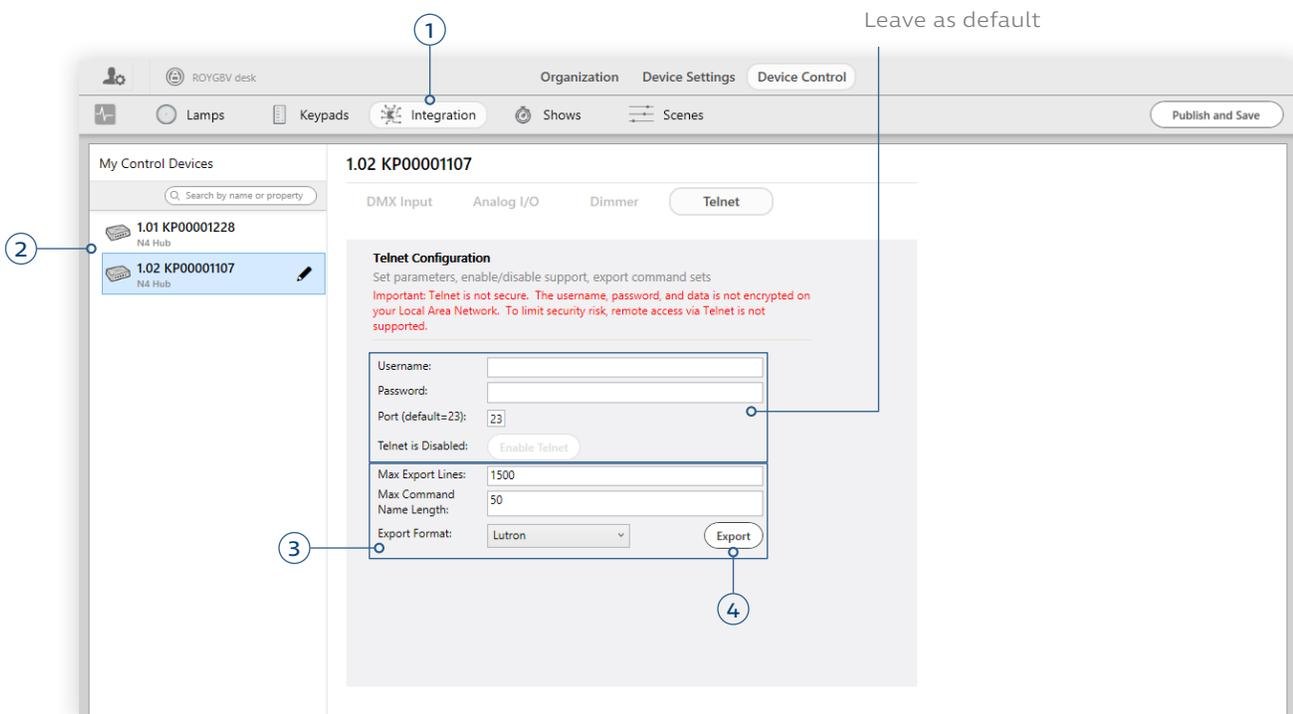

fig. 163
- 3 In the **Telnet Configuration** pane, confirm that the **Max Export Lines**, **Max Command Name Length**, and **Export Format** fields look like fig. 163.